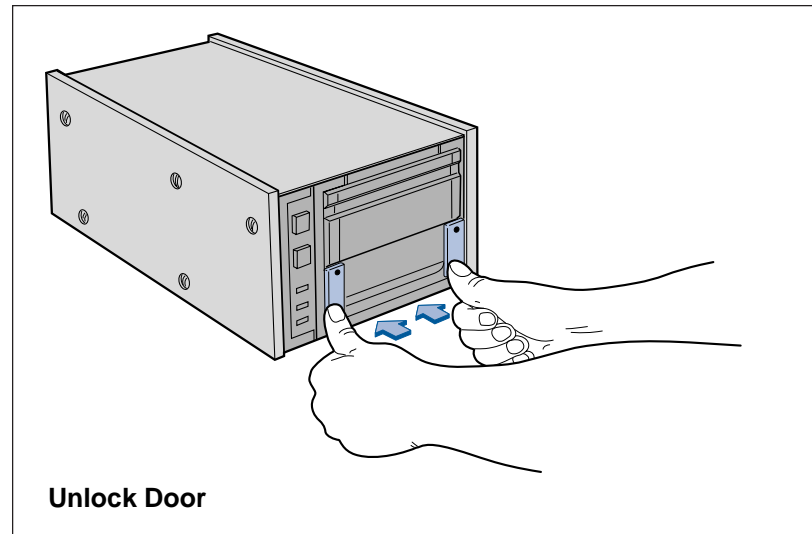

Figure 6. Loading Paper into the Printer
Loading paper is extremely simple because it does not have to be threaded or aligned. To load the paper (see Figure 6):
3. Slip the paper rod through the core of the new paper roll and install the paper roll on the carrier so the paper feeds from the top of the roll toward the front of the holder as shown in Figure 6 and on the diagram on the paper carrier. Feed a few inches of paper from the roll so it will extend over the platen after insertion into the printer.